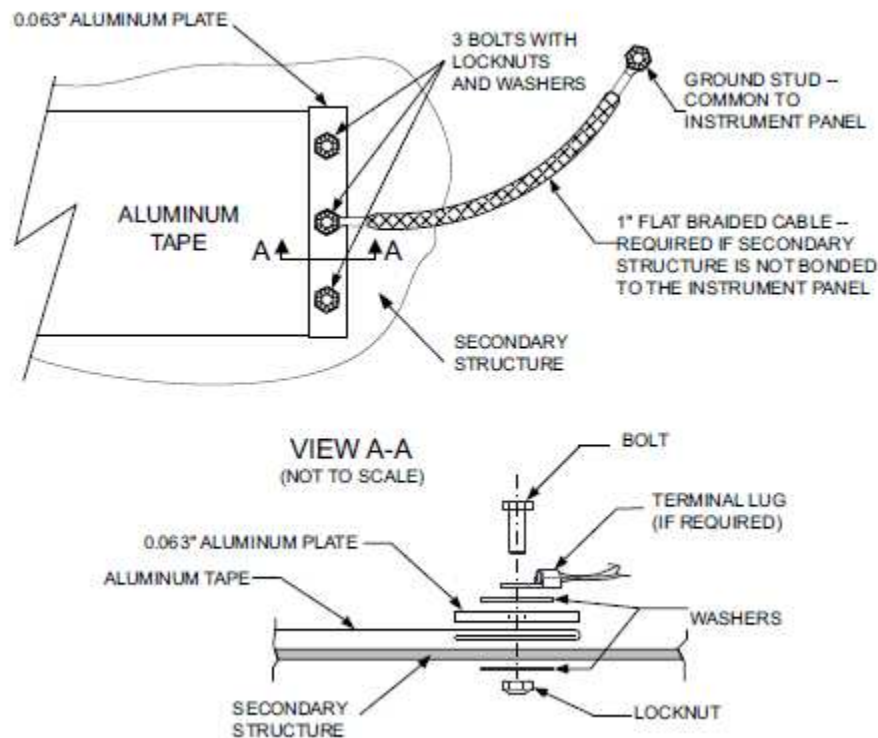

Figure 4-61 Aluminum Tape Ground Termination
8. Fold the end of the tape over twice for added thickness at the prepared grounding location. Refer to Figure 4-61. Apply 3” wide tape over the seam.
11. If a bonding strap will be used to reach the grounding location, secure the end of the tape to the secondary composite surface as shown in Figure 4-61. Note that the procedure for installing mounting bolts applies only to secondary aircraft structures, not to primary structure or structural load-carrying members. The tape shall meet 5:1 length to width ratio if a bonding strap is used. The bonding strap shall be one inch wide and no longer than five inches. Refer to Figure 4-61.
14. Secure the end of the tape in place using a 0.063" piece of aluminum using three bolts and nuts. Refer to Figure 4-61.